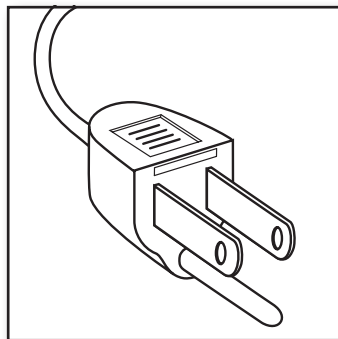

Figure 3
3. Carefully remove the fuse from the clips holding it on the top and bottom. Figure 3.